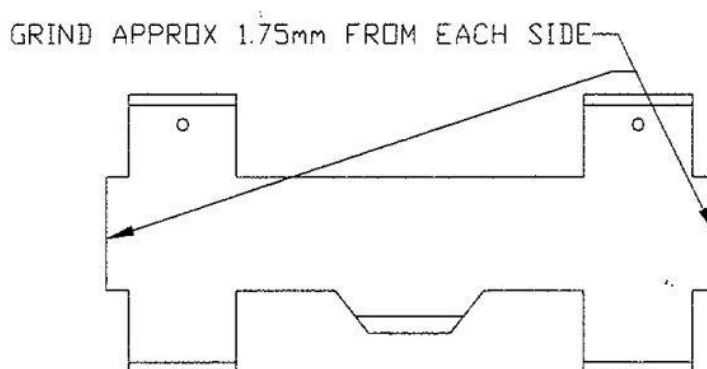

Figure 1
- Fit the brake pad and secure with pins and clips supplied, the clips need a small amount ground off each end until they fit between the calliper halves (see fig1), ensure the disc runs true in the calliper.